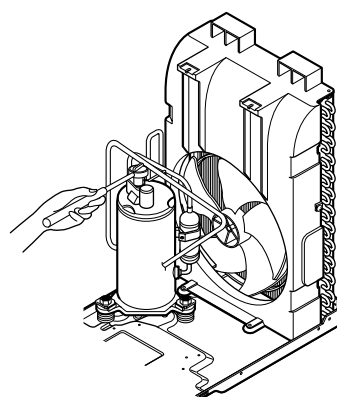

Figure 9
3. Remove the terminal cover. (See Figure 9)